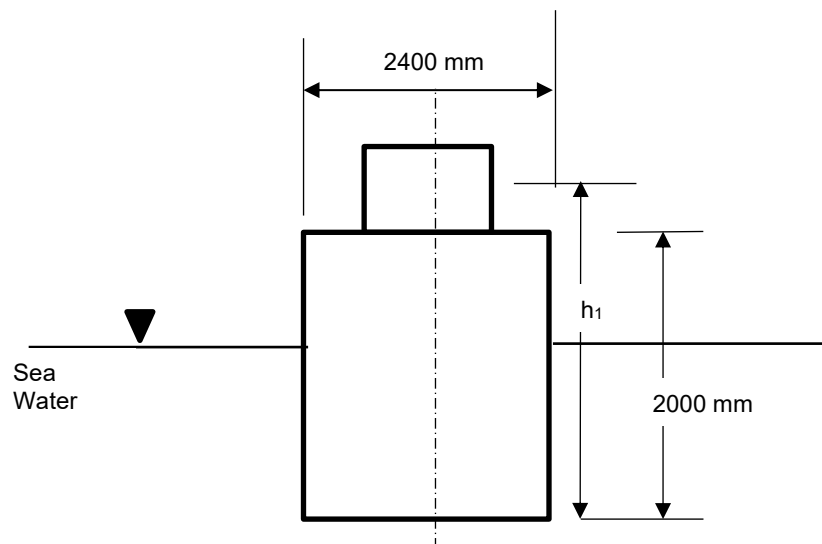

Figure 4
- (b). A cylindrical buoy of weight 16.5 kN with diameter 2.4 m and length 2.0 m is floating with its axis vertical in sea water of specific weight 10 kN/m³ as shown in **Figure 4**. A load of 1.5 kN is placed centrally at the top of the buoy. If the buoy is in stable equilibrium, determine the maximum permissible height h_1 , of the centre of gravity of the load above the top of the buoy.